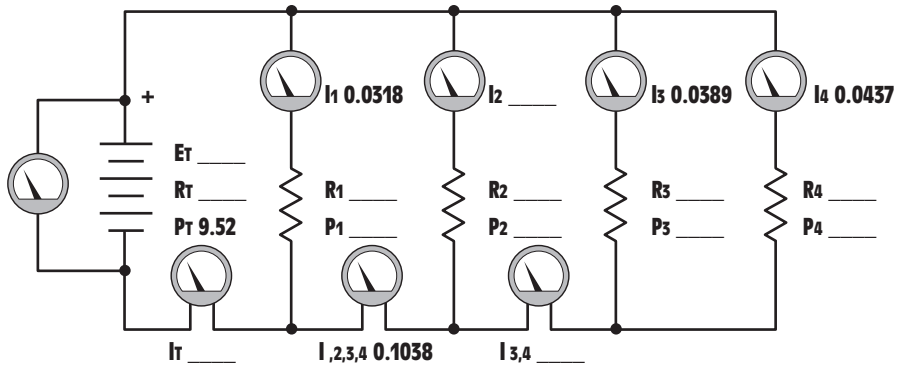

Figure 6-34 Practice Problem 9.
9. Find the missing values in the circuit shown in *Figure 6-34*.